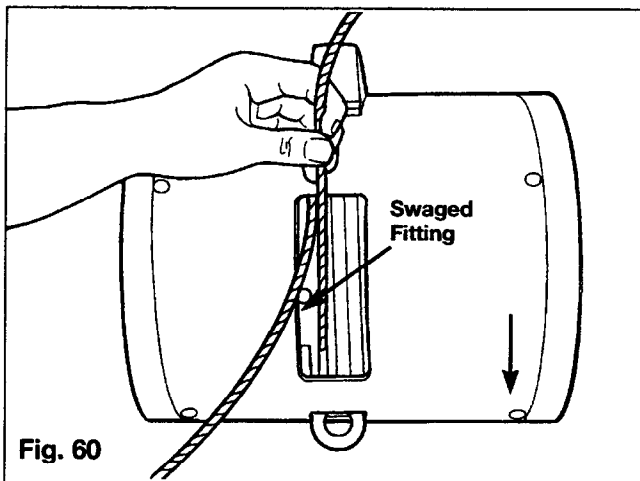

Fig. 60
1. Install new wire rope assembly, by first rotating the reel down (direction of arrow in Figure 60) until the anchor hole in the reel is visible.
2. The end of the wire rope is inserted down through the anchor hole in the reel and into the groove. Continue pushing wire rope into groove until the end appears at the top of the reel. Grasp this end and pull until swaged fitting on the end of the wire rope is pulled into the anchor hole in the reel (Figure 60).